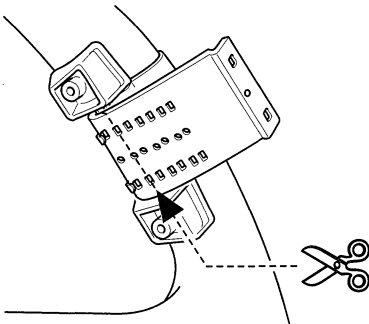

Fig. 11
2. Cut the extra portion of the belt at the center of the inner holder. (Fig. 11)